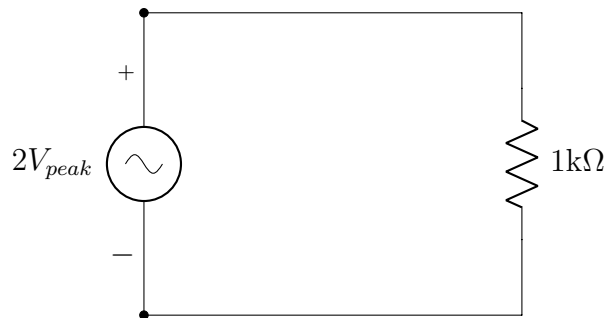

Figure 2.2: A Simple Resistive Circuit
Part (1) Setup the circuit in Figure 2.2, and connect the CH1 of the oscilloscope across the resistor. Use the “W1” and Ground terminals of the Analog Discovery for the Function Generator, and “1+” and “1-” pins for the Oscilloscope.